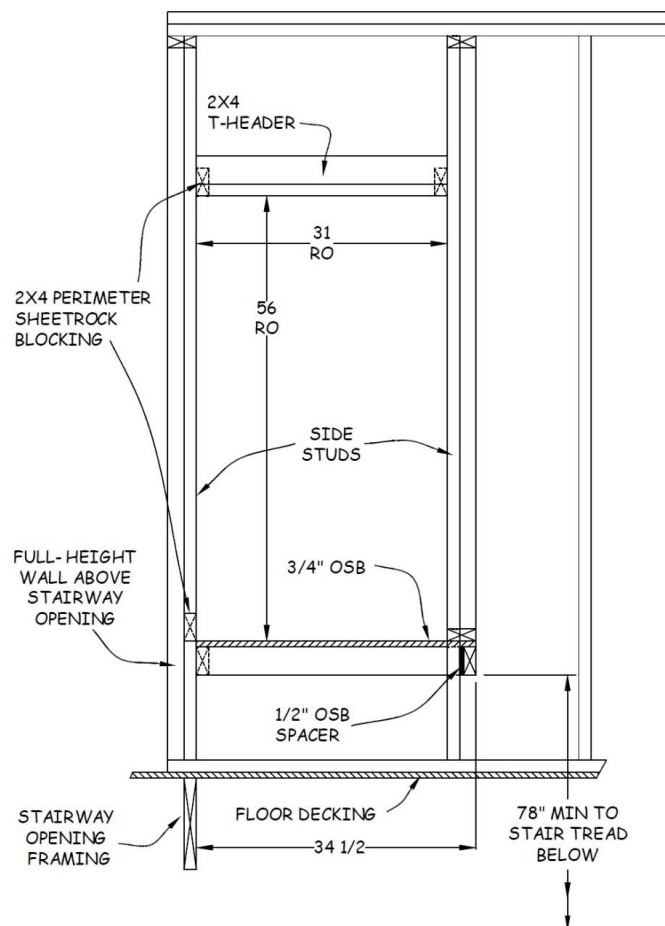

Figure 6-10. Stairway Cabinet Opening Framing.
2. Install a stud in the side wall flush to the stairway opening side of the end wall. Install another stud in the side wall 31" inside-to-inside from the first stud, toward the top of the stairs (see Figure 6-10).